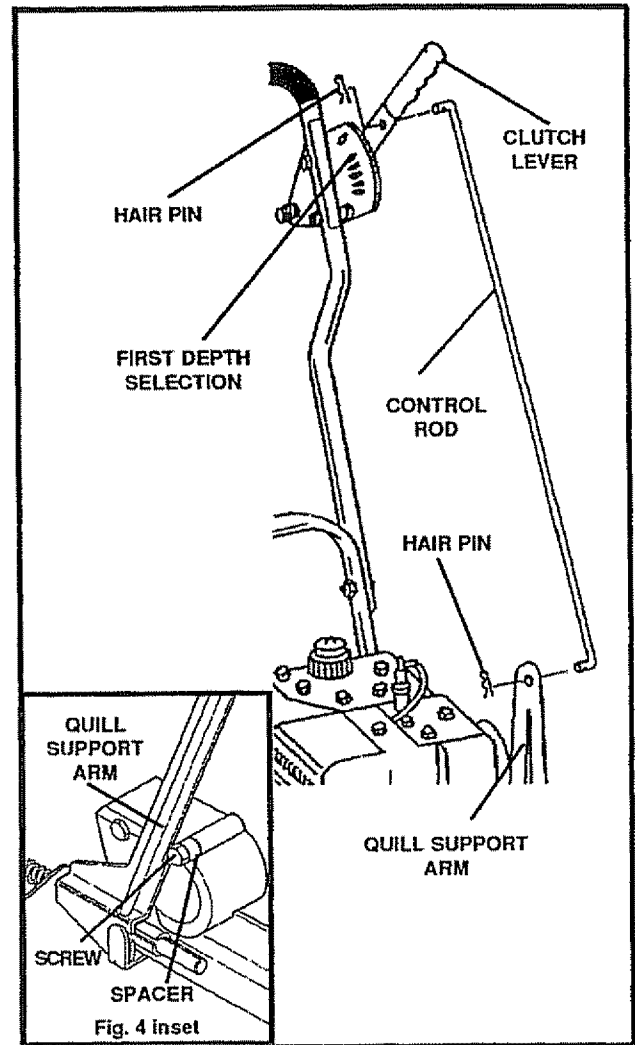
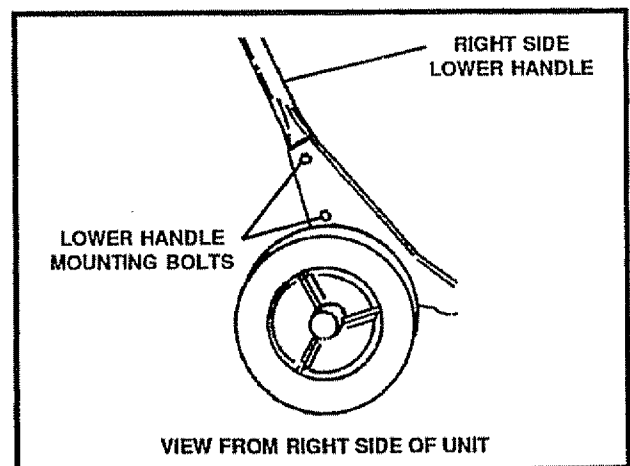

FIG. 4
FIG. 5
- Insert one end of the control rod from left to right through the hole in the clutch lever (See Fig 4) and attach with a hair pin (found in the parts bag)
- Place the clutch lever in the first depth selection (See Fig. 4) and insert the other end of the control rod through the hole in the quill support arm (See Fig. 4) Attach with hairpin (found in parts bag).
NOTE: If it is difficult to get the clutch lever into NEUTRAL, it may be necessary to loosen the four screws and nuts holding the lower handle to the frame (See Fig 5). Pry up (forward) on the handle only enough to allow the clutch lever to freely enter the NEUTRAL position. Retighten nuts and screws. When the clutch lever is in NEUTRAL the Quill Support Arm should be within 1/4 inch of the spacer and screw behind it (See Fig 4 inset)